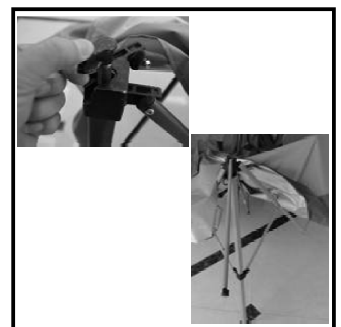

Fig. 4
- g) Pull out the extendable awning bar from the top of the gazebo leg. Fully extend the bar and gently push it downwards to lock it in position. Repeat for the remaining extendable awning bars. (see Fig. 4)